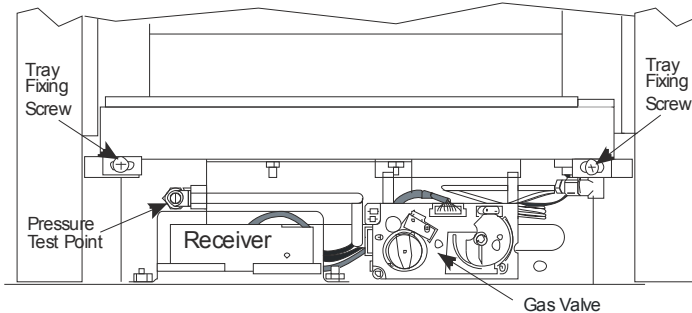

Figure 43 – Models with Mertik GV60 Valve (Total Control)
1. Remove the two burner fixing screws located under the front corners of the tray (see **Figure 42** and **Figure 43** on Page 24).